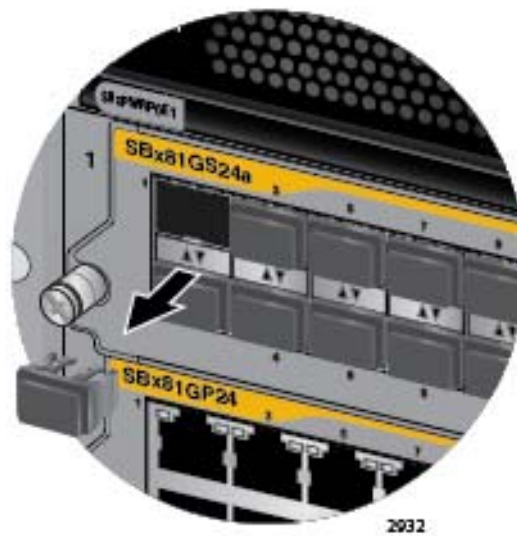

Figure 75. Removing the Dust Cover from an SFP Slot in the AT-SBx81GS24a Line Card
2. Remove the dust cover from the SFP slot chosen for the transceiver. Figure 75 shows the dust cover being removed from slot 1.